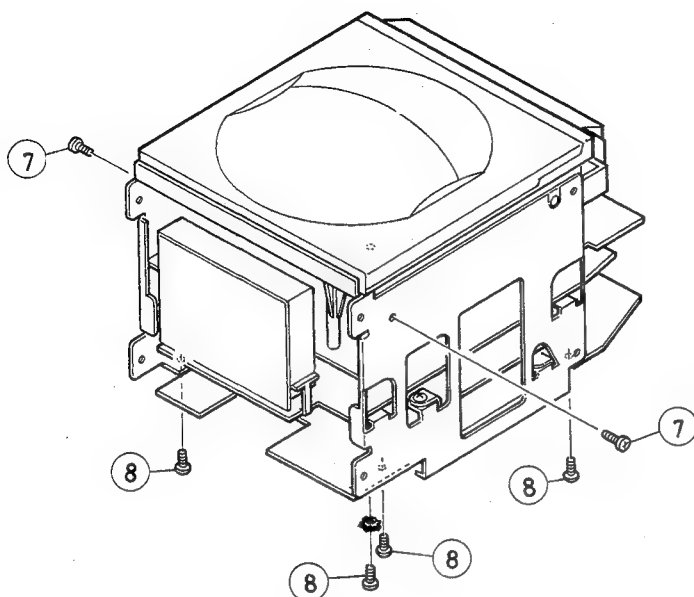

Fig. 7-4
■ CD player assembly (Fig. 7-4)
1. Remove two screws ⑦ retaining the CD player assembly.
■ Function board (VMW1255B) (Fig. 7-4)